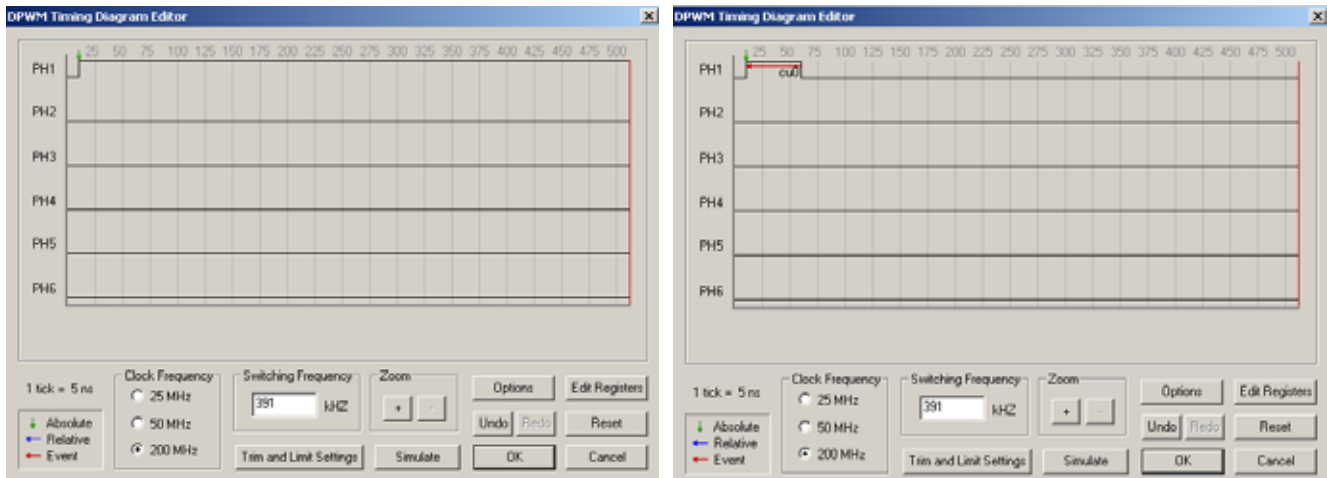

Figure 9. DPWM Timing Diagram Editor—Phase 1
2. To create an absolute edge on Phase 1, hold the mouse above the Phase 1 zero timing line (default) at time tick 10. Then, either double click with the left mouse button or right-click at that point and select **Absolute Edge**. An absolute edge at time tick 10 will be created (see Figure 9).
3. To finish the timing for Phase 1, specify hardware modulation using **(Cu0)**. This event edge will be modulated relative to its absolute edge at time tick 10. To create this edge, hold the mouse above the Phase 1 timing line to the right of time tick 10 at time tick 60. Either double-click or right-click at that point and select **Event (Cu0) Edge**. Next, select the edge to reference by clicking on edge 1 in Phase 1. A relative falling (Cu0) edge will be created at time tick 60 since U(n) defaults to 50 (see Figure 9).